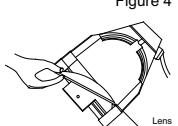

Figure 5
- 7.When the lens drops,remove your finger, allowing the lens to slide forward until it rests on the lens catchers (**Figure 5**).